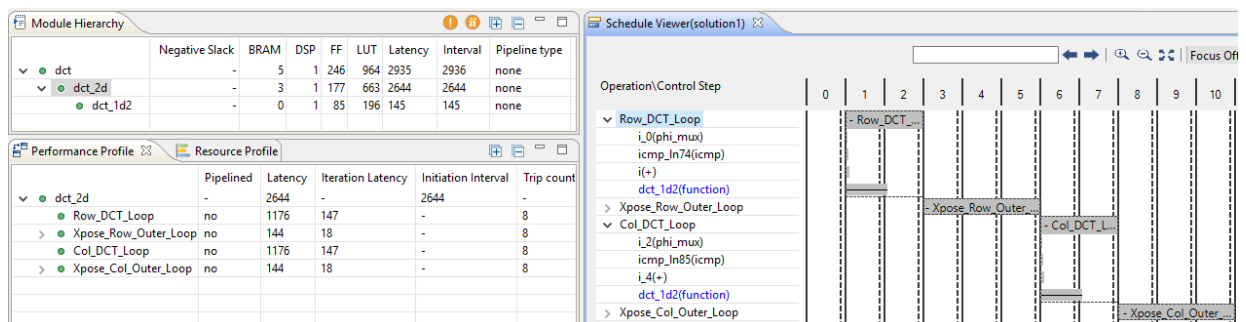

Figure 6-11: DCT_1D Schedule Viewer
Again, you can see a number of loops (shown in Figure 6-11). Loops ensure the design will have small area but the design will take multiple iterative states to complete. Each iteration of the loop will complete before the next iteration starts.
7. Click loops **Row_DCT_Loop** and **Col_DCT_Loop** of the dct_2d block in the Schedule Viewer to fully expand them, as shown in Figure 6-11.
9. Expand the loops in the **Performance Profile** and **Schedule Viewer** to see the view shown in Figure 6-11.
In Figure 6-11 you can see a series of loops (Row_DCT_loop, Col_DCT_Loop) that can be pipelined.